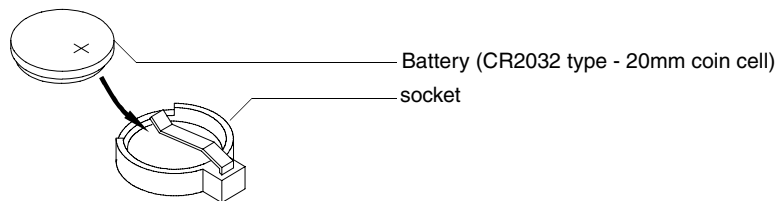

FIG. 6 Lithium battery and socket
4. Carefully slide each battery out of its socket (FIG. 6), and insert the new battery.